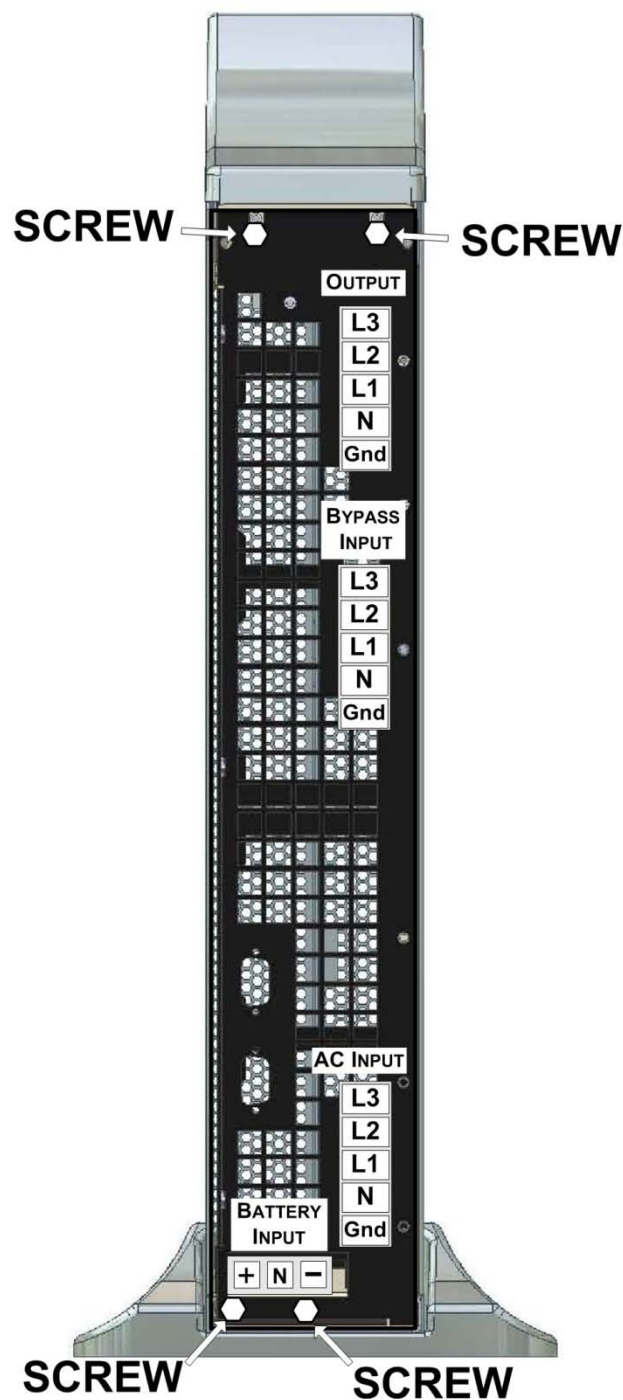

Figure 13: Remove the four screws from the rear panel
20. On the rear panel of the UPS, remove the screws that secure the internal UPS body to its external shell. (See Figure 13. Note - the number and location of the screws may differ from that shown in Figure 13.)